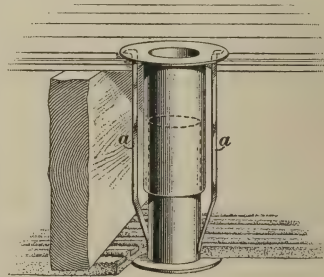

FIG. 65
**94.** Fig. 65 shows a sheet-metal telescopic sleeve for a single pipe. It is composed of two spun flanges, each attached to a sleeve. The lower flange is drawn up to the ceiling by cleats *a, a*, which are bent over and nailed to the floor, as shown. The upper flange and sleeve are pushed down in place over the lower sleeve, as shown; the upper flange is wide enough to conceal the cleats. An air space of 1 inch or more should exist between the sleeve and the steam pipe.